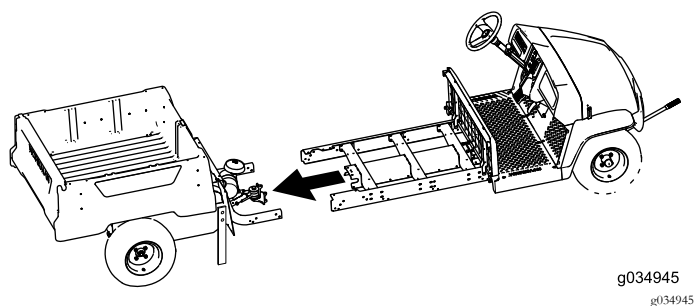

Figure 27
7. Have an assistant help you bring the front and rear sections of the machine together (Figure 27).